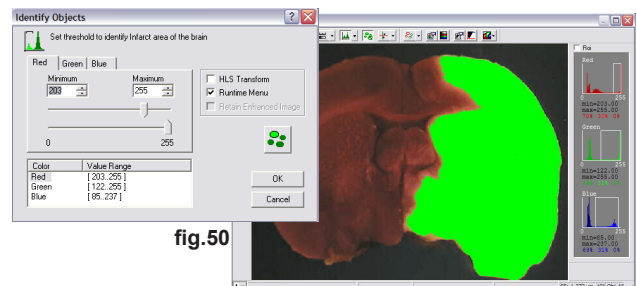

fig.50
10. Click **Identify**. Set the Minimum slider for Red to 216, Green to 122 and blue to 85 and leave the maximum slider to 255, or adjust the slider until the infarct section of the brain is covered by a green binary overlay (fig.50).